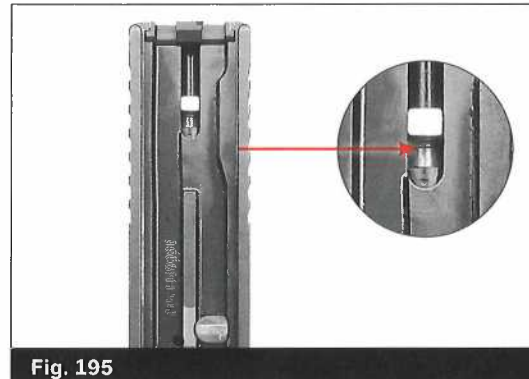

Fig. 195
- Insert the pin punch under the firing pin lug and on top of the firing pin spacer sleeve (black polymer visible just under the firing pin lug). (Fig. 195)